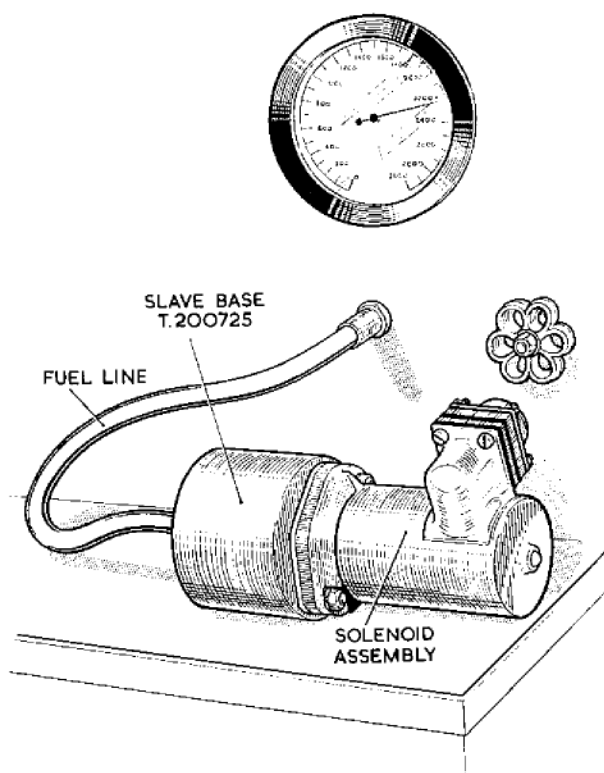

Fig. 9. Servo valve leakage check
73. Assemble the three sealing rings to the orifice housing and lower it over the two studs and into the slave base T.200725 (fig. 9). Fit the solenoid assembly over the two studs and secure it with nuts and washers. Connect a fuel line and pressure gauge and apply a fuel pressure of 3,000 lb. per sq. in., with the solenoid de-energised. Leakage will be accompanied by a fall of pressure indicated on the gauge; if this occurs, fit a new orifice and half-ball valve.